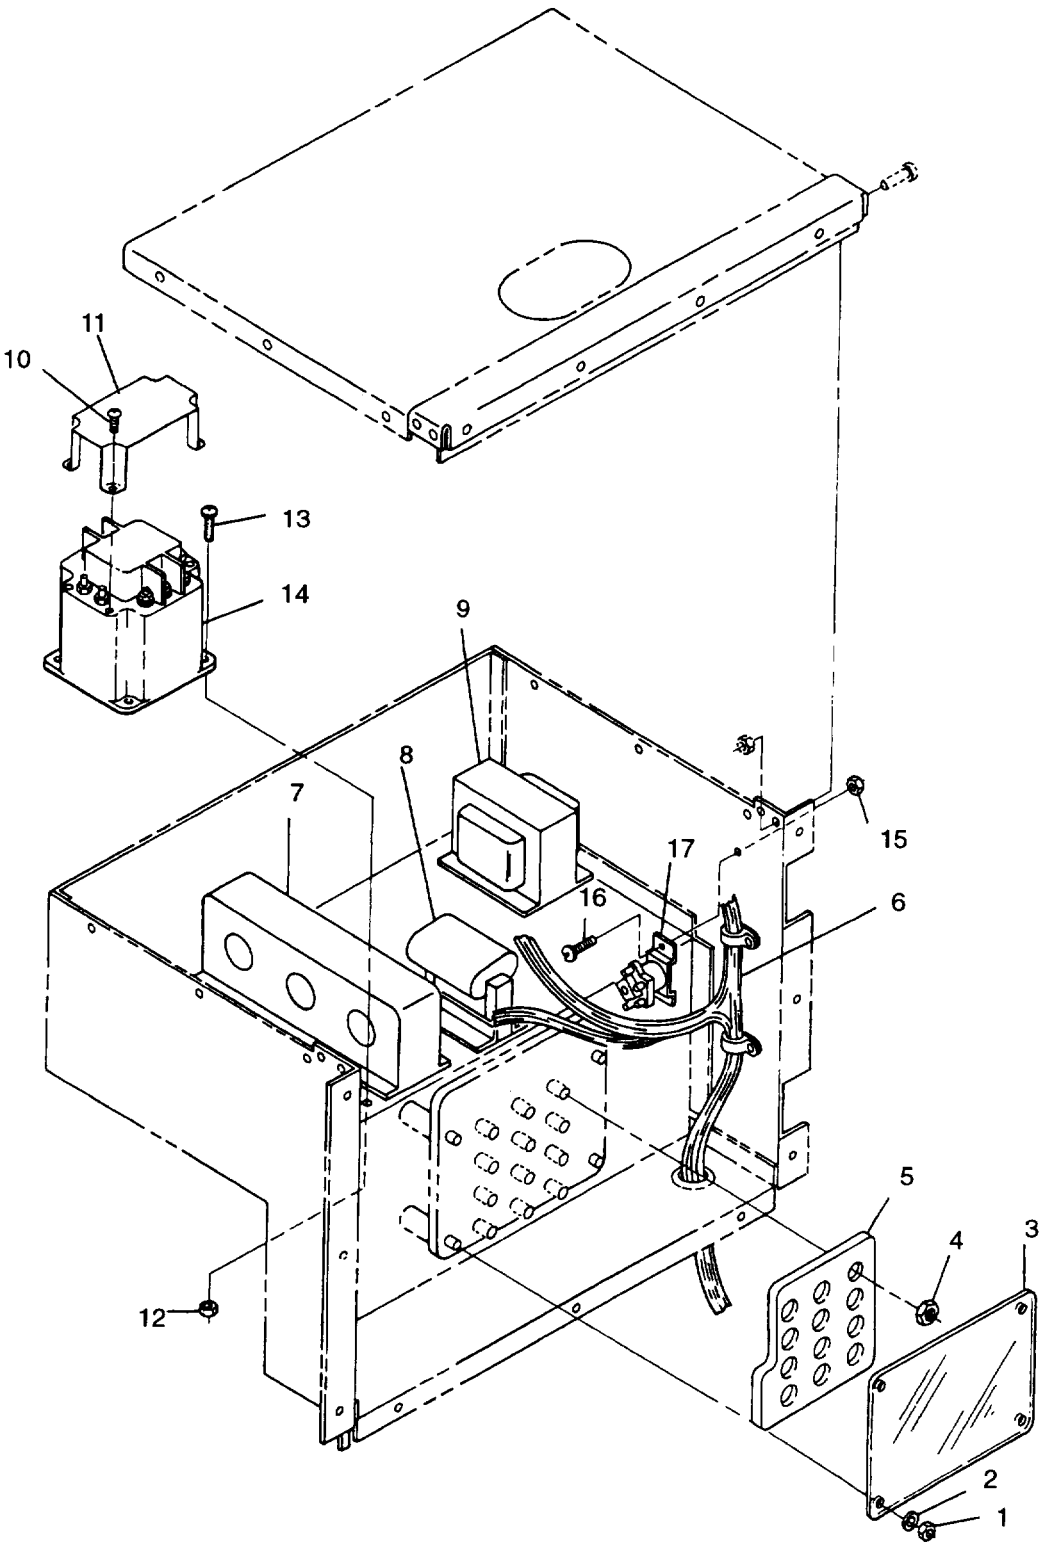

FIGURE 2-29. Output Box Assembly
- c. Inspect protective cover (3, FIGURE 2-29) and moveable terminal board (5) for cracks, breaks, corrosion, and other damage.
- d. Remove nuts (1, FIGURE 2-29), washers (2), and protective cover (3) from voltage reconnection terminal board assembly.
- e. Remove nuts (4) and moveable terminal board (5) from voltage reconnection terminal board assembly.
- a. Install moveable terminal board (5, FIGURE 2-29) on voltage reconnection terminal board assembly with nuts (4).
- b. Install protective cover (3) on voltage reconnection terminal board assembly with washers (2) and nuts (1).
- b. Inspect wiring harness (6, FIGURE 2-29) for burned, bent, corroded, and broken terminals.
- c. Inspect current transformer (7, FIGURE 2-29) for security, cracked housing, broken or stripped terminals, and loose or missing hardware.
- d. Tag and disconnect electrical leads from current transformer (7, FIGURE 2-29) secondary terminals.
- c. Inspect droop current transformer (8, FIGURE 2-29) for cracked housing, security, broken wire terminals, loose or missing hardware, and other damage.
- c. Inspect power potential transformer (9, FIGURE 2-29) for security, cracked housing, broken wire terminals, loose or missing hardware, and other damage.
- c. Inspect AC circuit interrupter relay (14, FIGURE 2-29) for security, cracked housing, broken wire terminals, and other damage.
- d. Remove screws (10, FIGURE 2-29) and cover (11) from AC circuit interrupter relay (14).
- e. Tag and disconnect AC circuit interrupter relay (14) electrical leads.
- f. Remove screws (13), nuts (12), and AC circuit interrupter relay (14) from output box.
- a. Install AC circuit interrupter relay (14, FIGURE 2-29) in output box with screws (13) and nuts (12).
- c. Install cover (11) on AC circuit interrupter relay (14) with screws (10).
- c. Inspect cranking relay (17, FIGURE 2-29) for security, cracked housing, broken wire terminals, and other damage.
- d. Tag and disconnect wires from terminals X1, X2, and A2 of cranking relay (17, FIGURE 2-29).
- d. Tag and disconnect cranking relay (17, FIGURE 2-29) electrical leads.
- e. Remove screws (16), nuts (15), and cranking relay (17) from output box.
- a. Install cranking relay (17, FIGURE 2-29) with screws (16) and nuts (15).